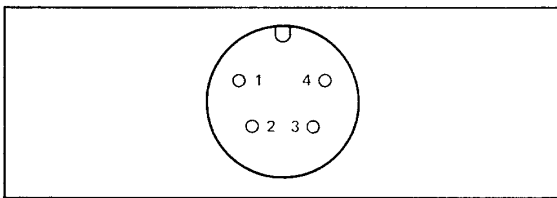

Figure 7-23. Pin Orientation on RF Detector Connector
- g. Connect digital multimeter between pins 1 and 2 of detector connector (Figure 7-23) and measure the resistance value of R1 (typical value is  $40.5k\Omega$ ). This resistance value is hereafter known as  $R_T$ ; record this value.